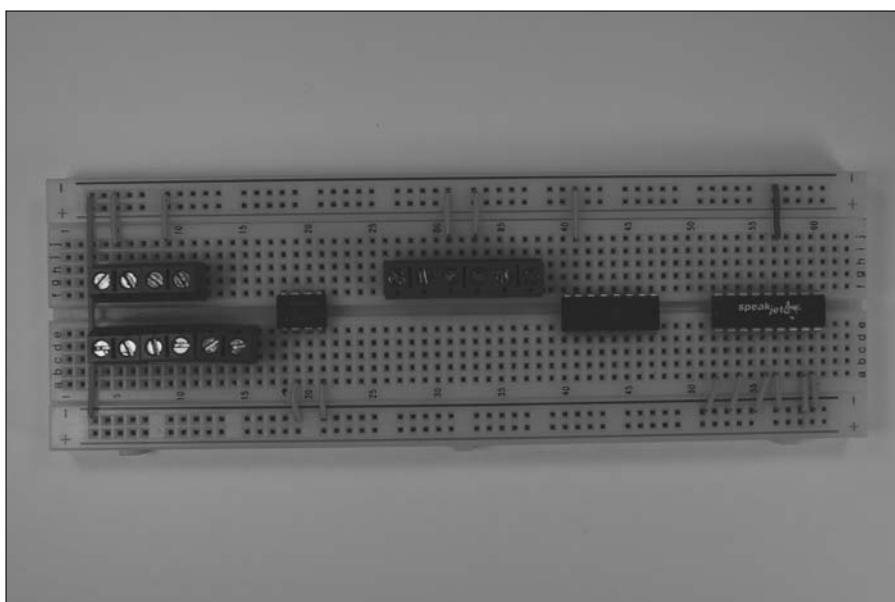

Figure 7-6: Connect the ICs and terminal blocks to ground; then connect the ground buses.
- 2. Insert wires to connect the ICs and the terminal blocks to the ground bus and then insert a wire between the two ground buses to connect them to each other, as shown in Figure 7-6.**